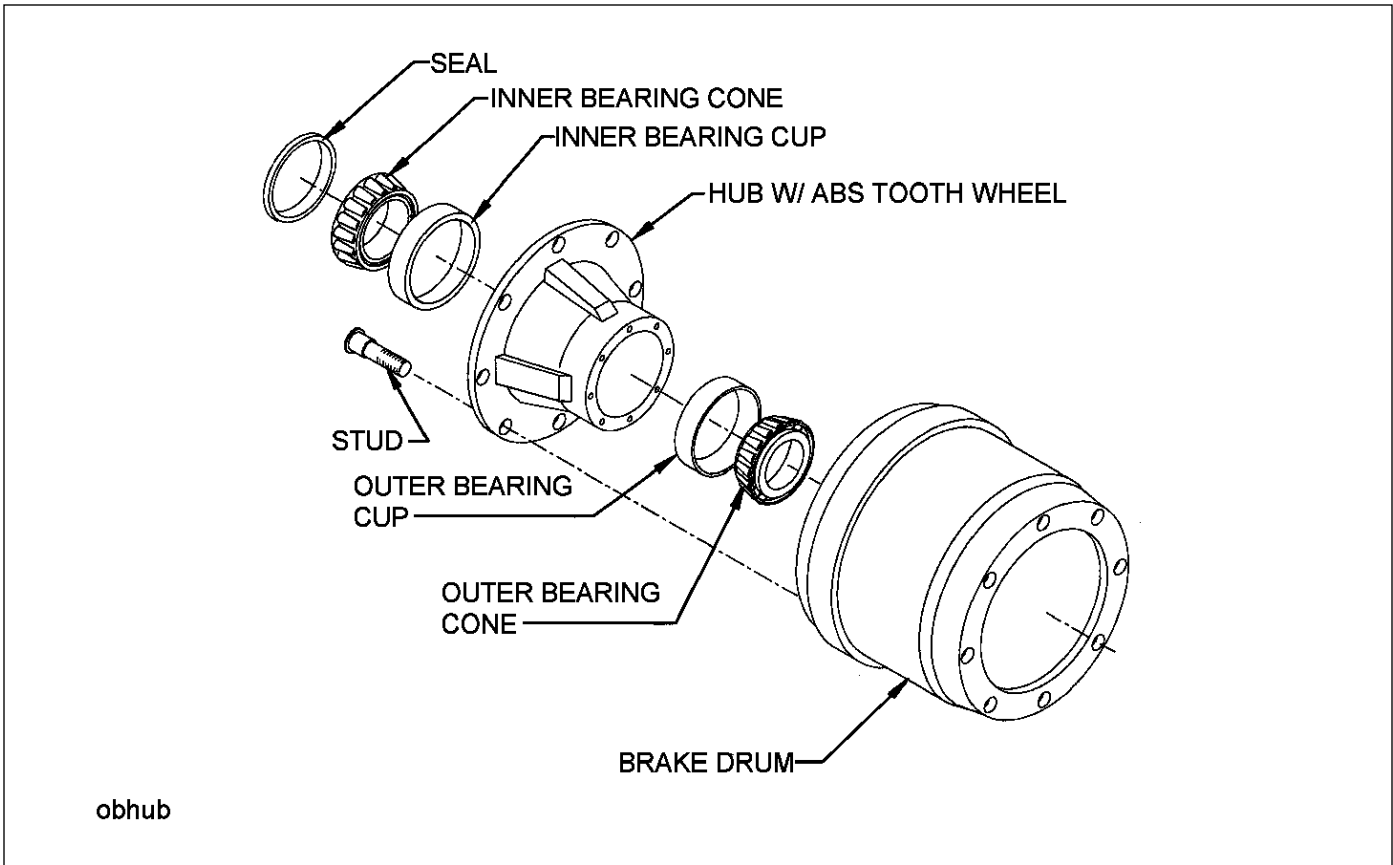

Figure 4-12: Outboard Mount Hub and Drum
7. Replace the hub and drum as follows **(See Figure 4-12.):**
- a. Remove the brake drum **(See Figure 4-12.)** It may be necessary to release the slack adjuster.